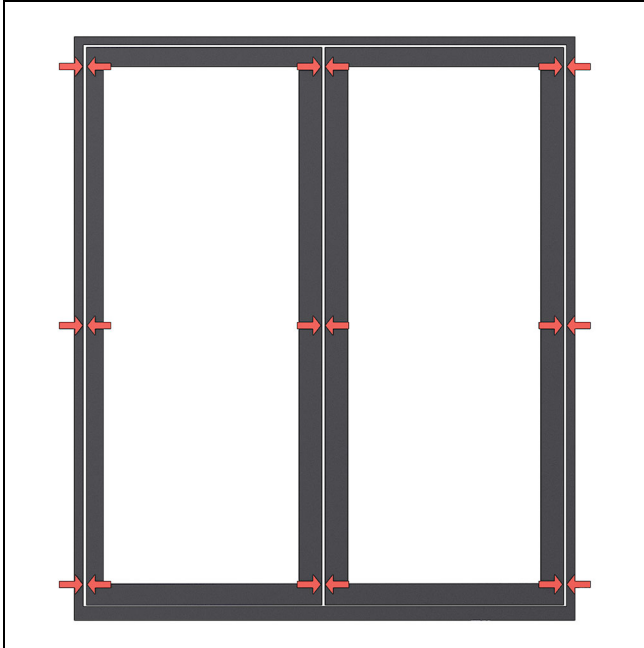

Figure 80
1. Adjust your hinges horizontally until you have consistent reveals along the sides and at meeting stiles. See Figure 80.